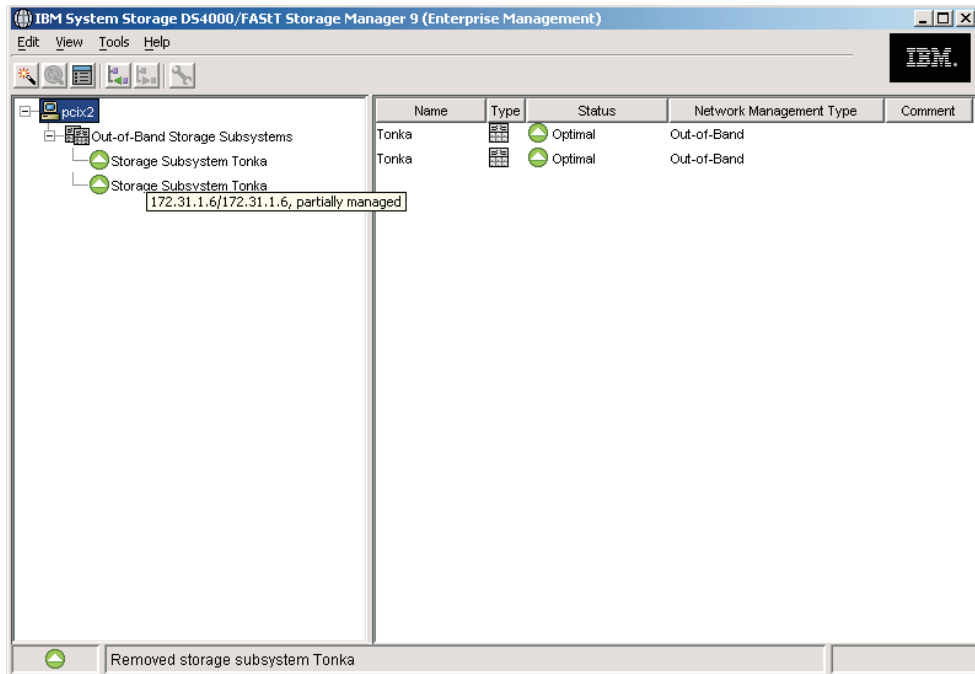

Figure 54. Dual entries appear in the Directly-Managed Storage Subsystem tree
- If Controller A is added as a separate entry in the Enterprise Management window as shown in Figure 54 on page 116, perform the following steps: